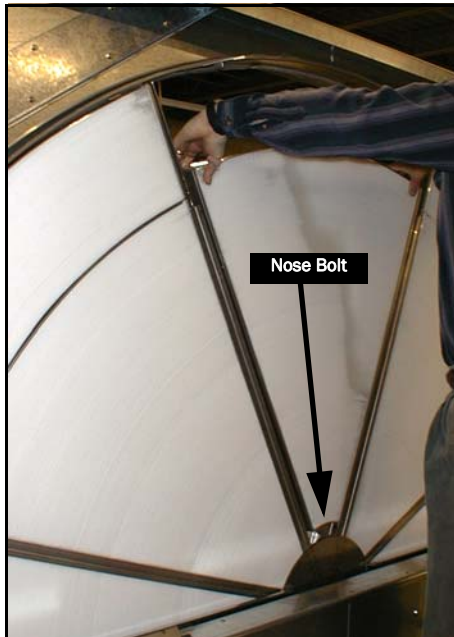

Figure 25 Remove nose bolt and remove interior segment.
- 8 To remove the inner segment, support segment with one hand while removing 1/4-20 flat head nose bolt in the hub with a 5/32-inch Allen wrench, Figure 25. **WARNING: AS SOON AS THE NOSE BOLT IS REMOVED, THE SEGMENT IS NO LONGER SECURE.**
- 9 With weight of segment resting in the lower spoke pocket, carefully slide segment out from between hub plates, Figure 25.
- 10 Rest segment on lower spoke, grasp nose of segment with one hand and the outer corner of the segment in the other hand, then remove segment from wheel, Figure 25.
- 11 Reinsert 1/4-20 bolt in segment nose bracket, Figure 25, to avoid loss.
- 2 Remove 1/4 - 20 flat head bolt from segment nose bracket, Figure 25.
- 3 Center and rest segment on lower spoke. Slide inner segment along spokes until nose bracket contacts stop in hub plate, Figure 25.
- 4 Insert nose bolt and tighten until bolt is firmly seated, Figure 25.